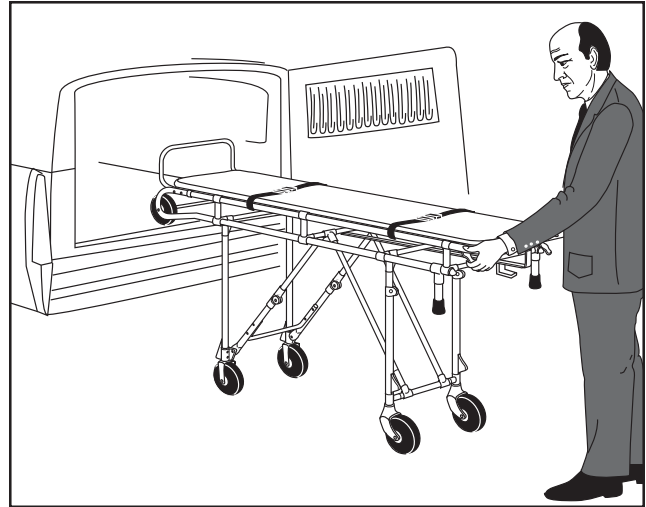

Figure 8 - Loading and Unloading the Cot
1. Push the cot into the vehicle until both loading wheels are on the floor of the compartment (Figure 8).